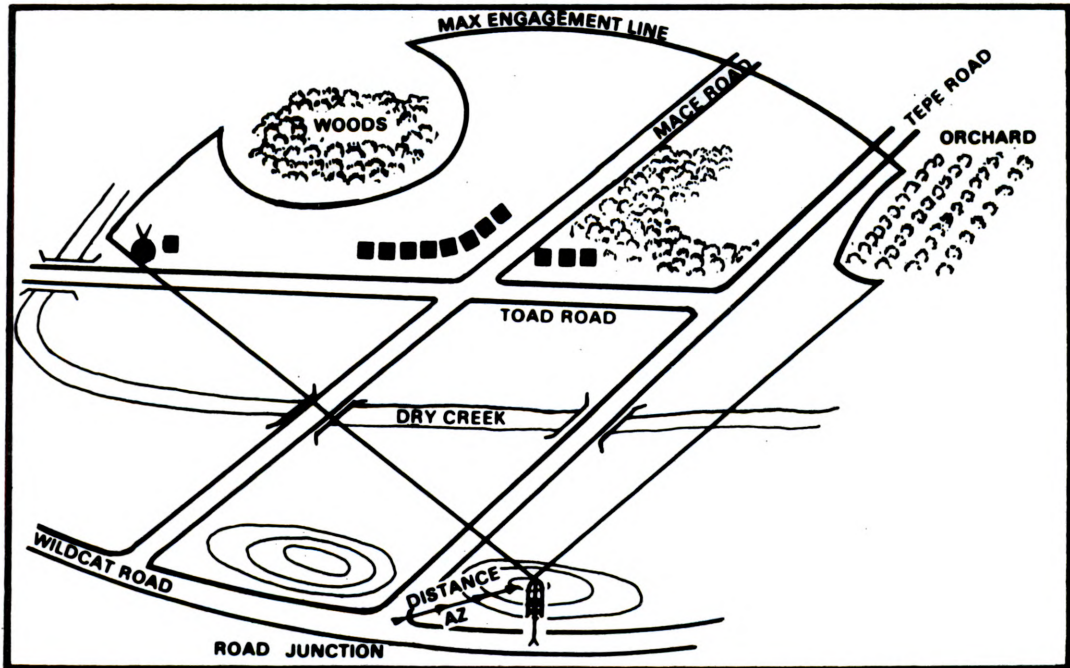

Figure 3
(3) Now draw in your sector. This is an enclosed line that outlines your sector of fire. The maximum engagement line is a segment of the sector line and indicates the maximum range that targets may be engaged (fig. 3).